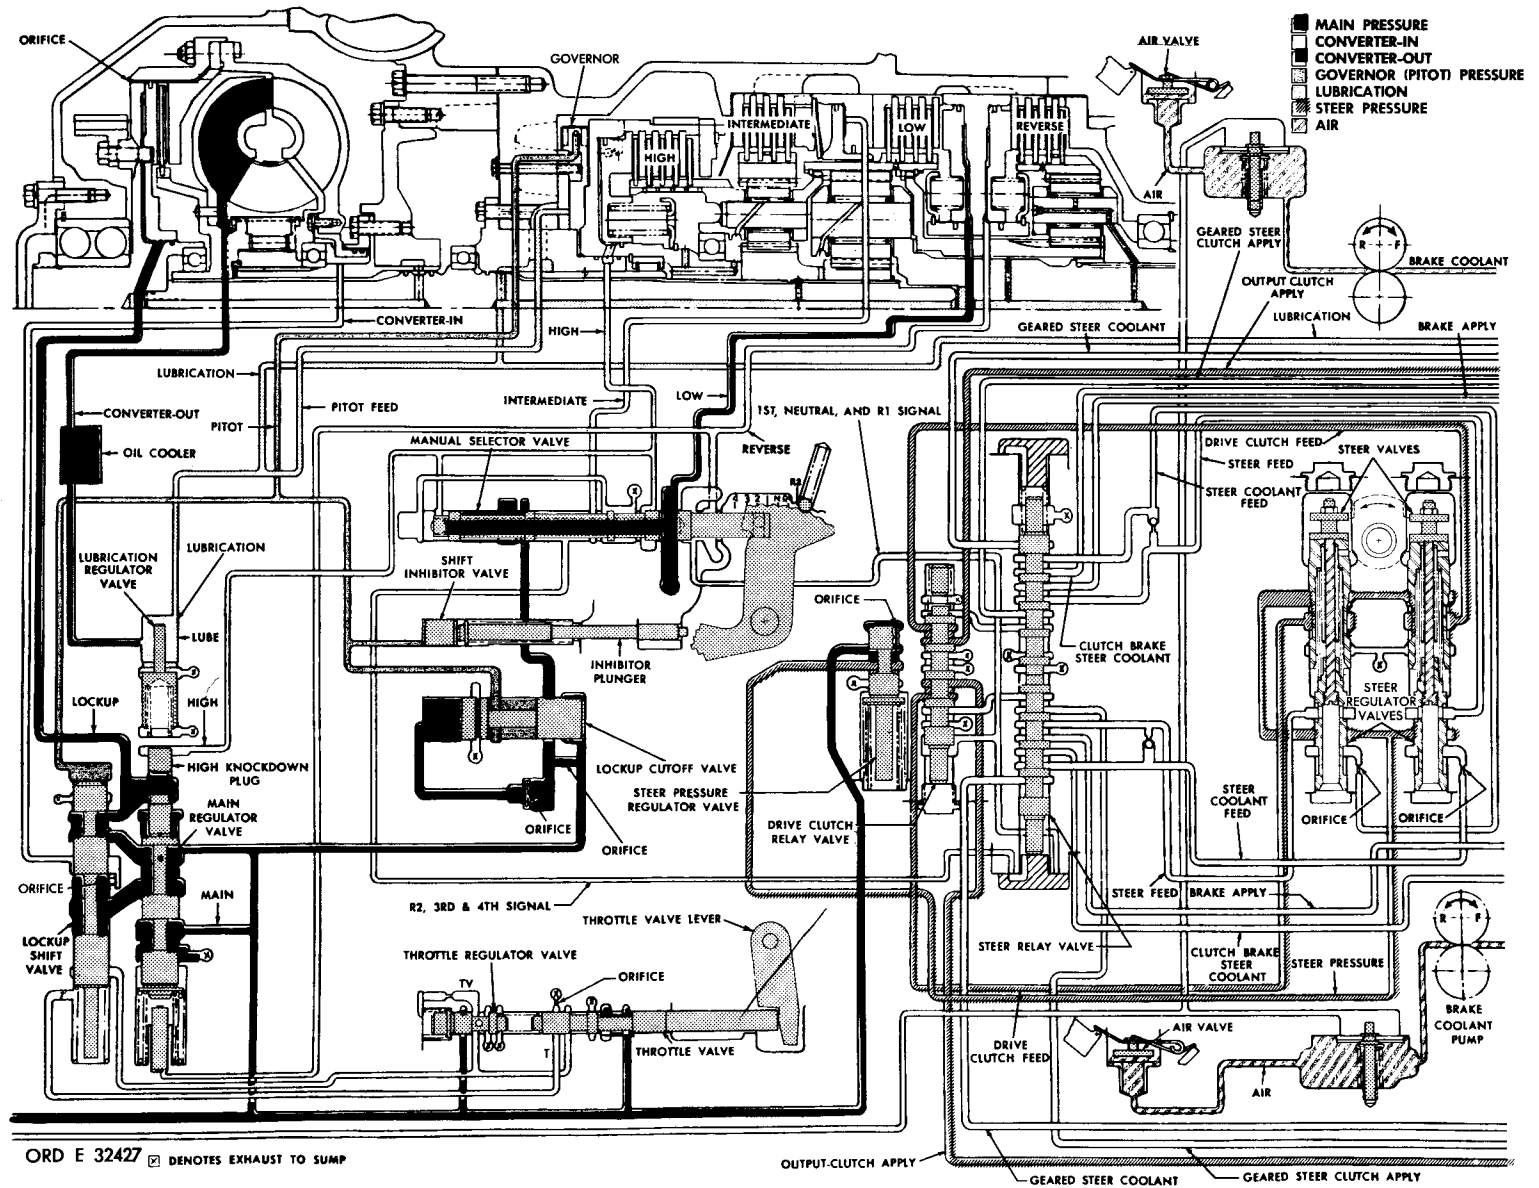

Figure 8. Hydraulic system, second gear — schematic view
32. HYDRAULIC SYSTEM FUNCTION - SECOND GEAR (fig. 8)
c. Fig. 8 illustrates the lockup shift valve in its downward position and shows main pressure applying the lockup clutch. Note the branch of the lockup clutch line that directs pressure to the top of the main-pressure regulator valve. Downward movement of the valve exhausts oil to the sump, reducing main pressure.